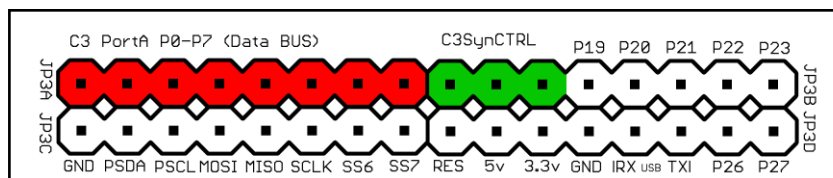

Figure 21: The C3Synapse/PropC3 header.
C3Synapse shares the same signals of the PropC3 Bus through Header (1) instead. In particular it uses lines from **[P7:P0]** as an 8-bit data bus, while lines from **[P18:P16]** are used to select all functions of the C3Synapse. **Figure 21** highlights these shared lines.